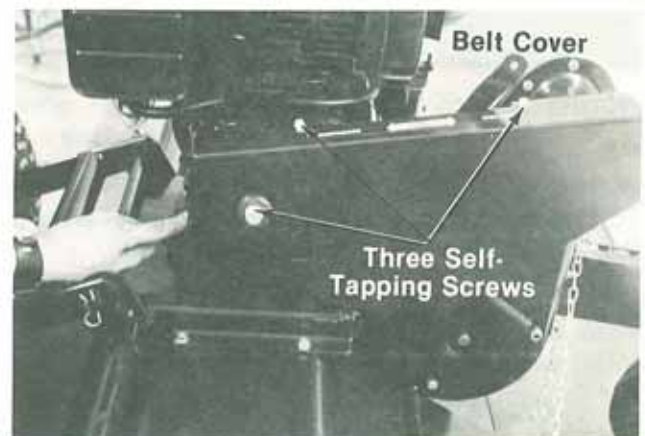

FIGURE 22.
3. Remove the belt cover by removing three hex head self-tapping screws with a 3/8" wrench. See figure 22.